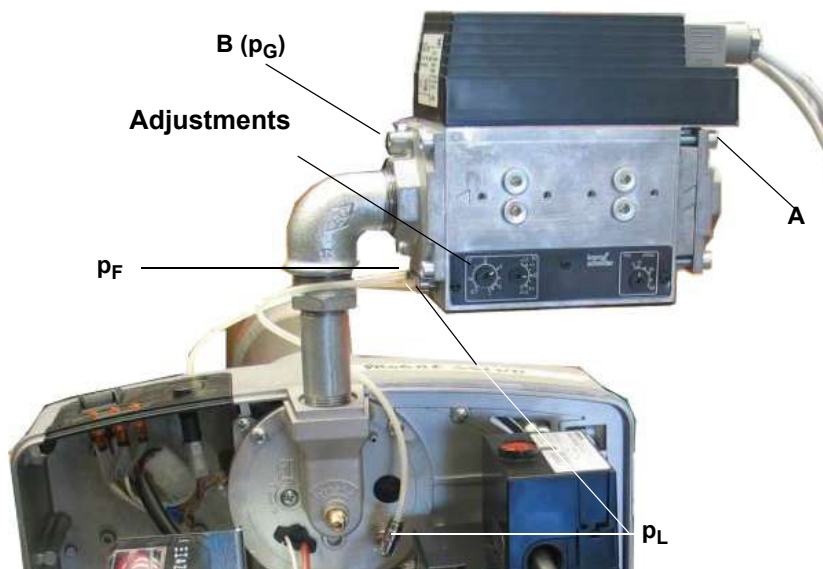
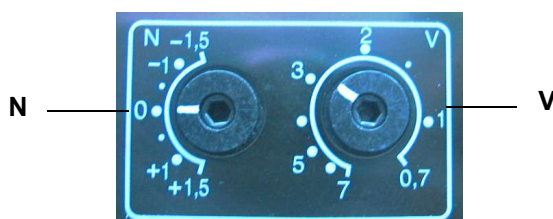

Fig. 22
Fig. 23
Transmission ratio **V** (see pictures Fig. 22 - Fig. 23)
- 1 Start burner with low fire: if the burner does not start, turn **N** (see picture Fig. 23) slightly in the direction + and repeat the start.
- 2 Test gas pressure **pG** at **B** (see picture Fig. 22).
- 3 Test air pressure **pL** (see picture Fig. 22) at the burner and adjust the gas pressure at **N** according to the specifications of the burner manufacturer.
- 4 Set the burner gradually to high fire and adjust the gas pressure at **V** (see picture Fig. 23) in accordance with the boiler input.
- 9 Repeat analysis with low and high fire; if necessary, correct **N** and **V** (see picture Fig. 23) .
Do not block connection **pF** if not used (see picture Fig. 22).
**V** = Do not set transmission ratio to high! The gas pressure at **B** is smaller than the gas pressure at **A** (see picture Fig. 22) minus the
- 2 Measure the gas pressure at **A** and **B** (see picture Fig. 22).